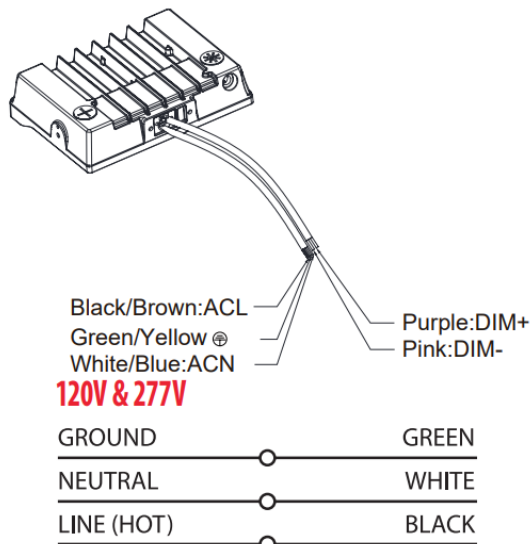
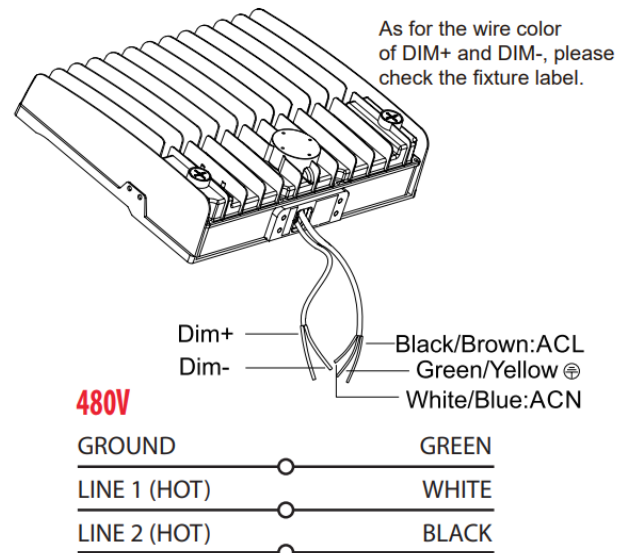

Figure 1
Figure 2
1. Assure power is off during wiring connections, follow the wiring diagram in Figure 1 and Figure 2.